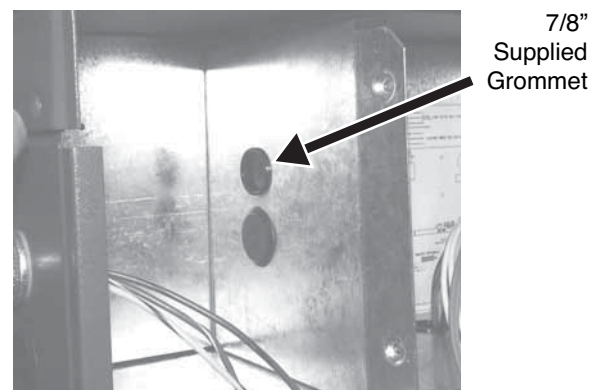

Fig 16
18. Remove and replace the 7/8" plug with the provided 7/8" grommet (located on the left side of the control panel). See Fig. 16.